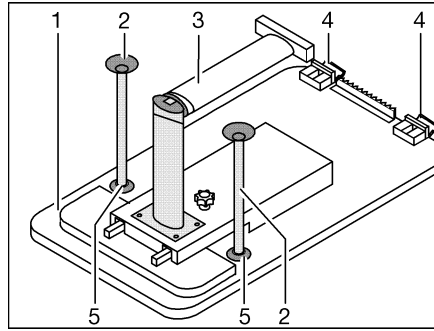

Fig. 96 Bed foundation
- Slightly raise the front of the table-top (Fig. 96,1).
- Unlock table leg (Fig. 96,3) at the hinge and fold it in.
- Push the table-top approx. 45° upwards and remove holders (Fig. 96,4) from the upper mounting rail.
- Depending on the model, insert both additional support legs (Fig. 96,2) into the holders (Fig. 96,5) on the bottom side of the table.